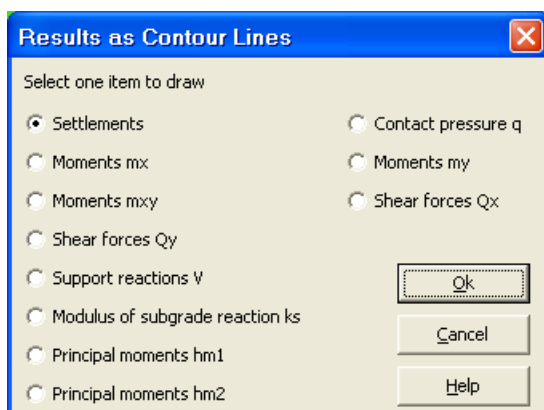

Figure 12-35 "Results as contour lines" option box
- Choose "Results as contour lines" command from "Graphic" menu of *ELPLA-Graphic*. The following option box in Figure 12-35 appears